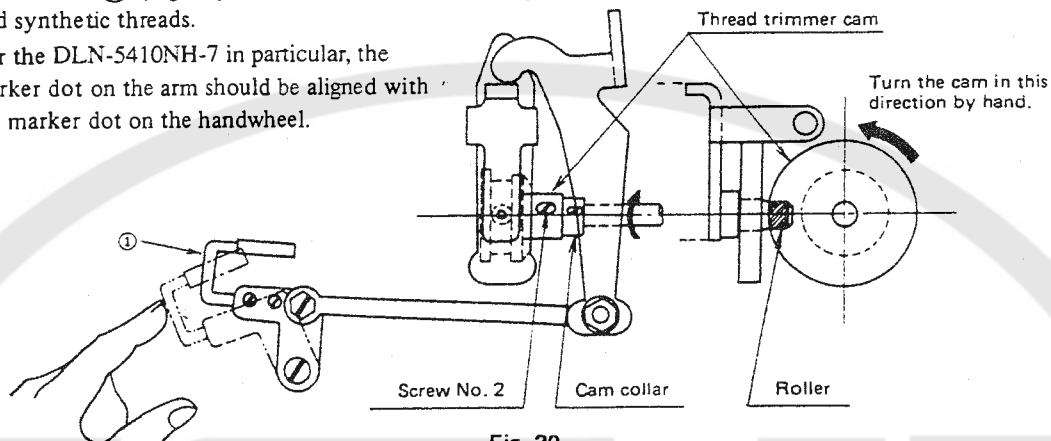
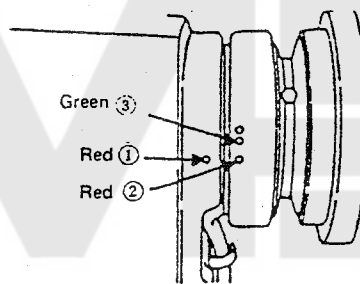

Fig. 20
Fig. 21
Tilt the machine head, manually turn the handwheel until the thread take-up lever almost reaches its highest position, and press thread take-up picker ① in Fig. 20 to the right by finger. This causes the cam roller to fit in the groove of the thread trimmer cam. With this condition maintained, turn the handwheel in the direction opposite to the normal rotational direction, and you will find a position in which the handwheel no longer turns. Then, adjust the cam timing so that marker dot ① (Fig. 21) on the machine arm is aligned with marker dot ② (Fig. 21) on handwheel as shown in Fig. 21. This provides the proper cam timing for cotton and synthetic threads.
Loosen screw No. 1 first, and then screw No. 2 (Fig. 20), and align red marker dot ② on the handwheel with red marker dot ① on the machine arm (Fig. 21).
Fit the cam roller in the groove of the cam while pressing thread take-up picker ① (Fig. 20) to the right. Manually turn only the cam (do not turn the hook driving shaft) in the direction opposite from the normal rotation of the hook driving shaft (see the arrow in Fig. 20) until a position in which the cam goes no further is reached.
In this position, press the cam against the thrust collar of the thread trimmer cam (Fig. 20), and retighten the screw No. 2 first and then the screw No. 1. If the cam collar has not been moved, press the thread trimmer cam against the cam collar, and retighten the screw No. 2 first and then the screw No. 1.
- ① A few beginning stitches are skipped.
- ② Thread slips off the needle at the start of sewing.
- ① Align marker dot ① (Fig. 21) on the machine arm with green marker dot ③ (Fig. 21) on the handwheel.
- ② Use the soft start function for the first starting stitch.
- ⑥ Align red dot ② (Fig. 21) on the handwheel with red dot ① (Fig. 21) on the machine arm.
Check whether the tension disc No. 2 floats 0.5 to 1 mm (0.019" to 0.039") when thread take-up picker ① (Fig. 20) is pressed to the right with the thread take-up lever located slightly below its highest position and the presser foot lifted.